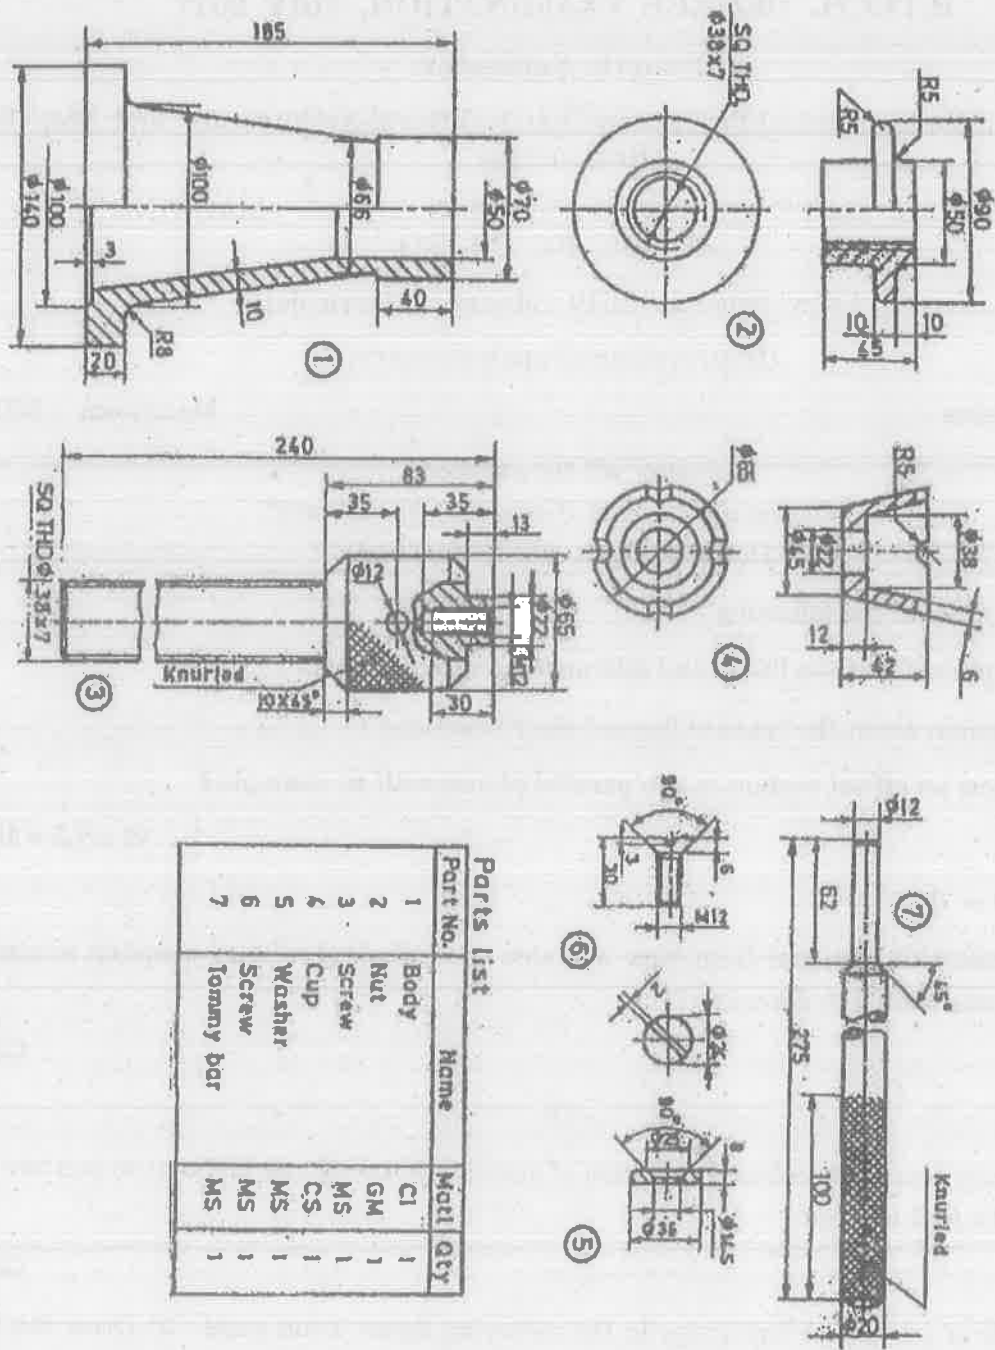

Figure 1. Screw Jack
3. The details of screw jack are given in the following figure 1 (on page : 2) Draw the following assembled views :